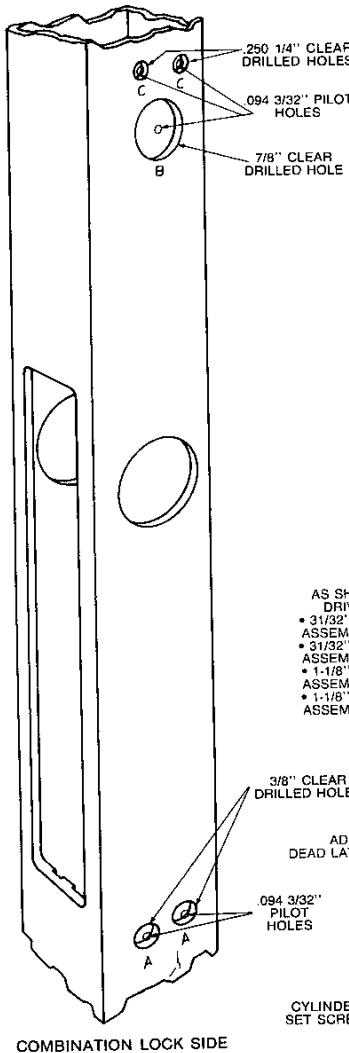

FIGURE 6
Step 11: (Figure 6)
Remove Adams-Rite cam plug(s) and Adams-Rite dead latch assembly from door. (See Fig. 6) (This will prevent chips from entering the latch.)